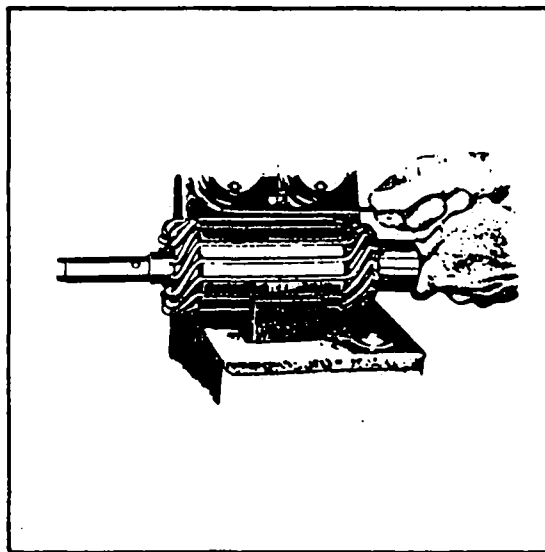

Figure 11-44. Testing Motor Armature for Shorts
c. To test for shorted armature coils, a growler is used. (Refer to Figure 11-44.) The armature is placed on the growler and slowly rotated by hand while a steel strip is held over the core so that it passes over each armature core slot. If a coil is shorted, the steel strip will vibrate.